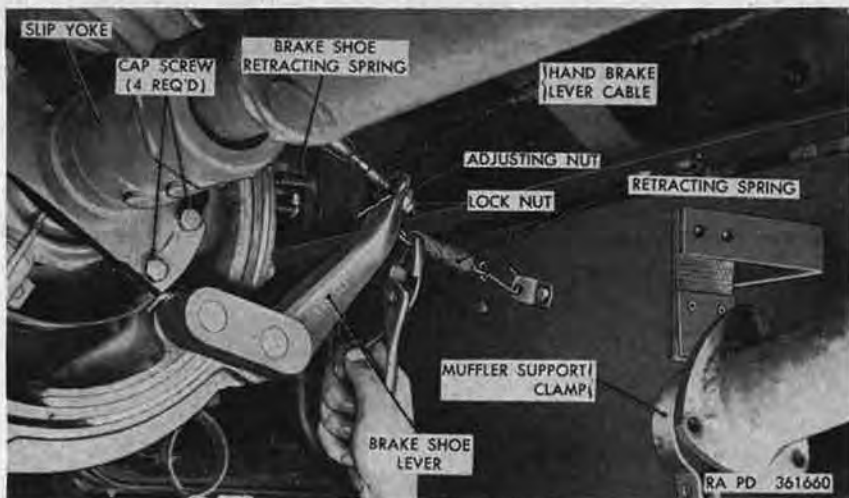
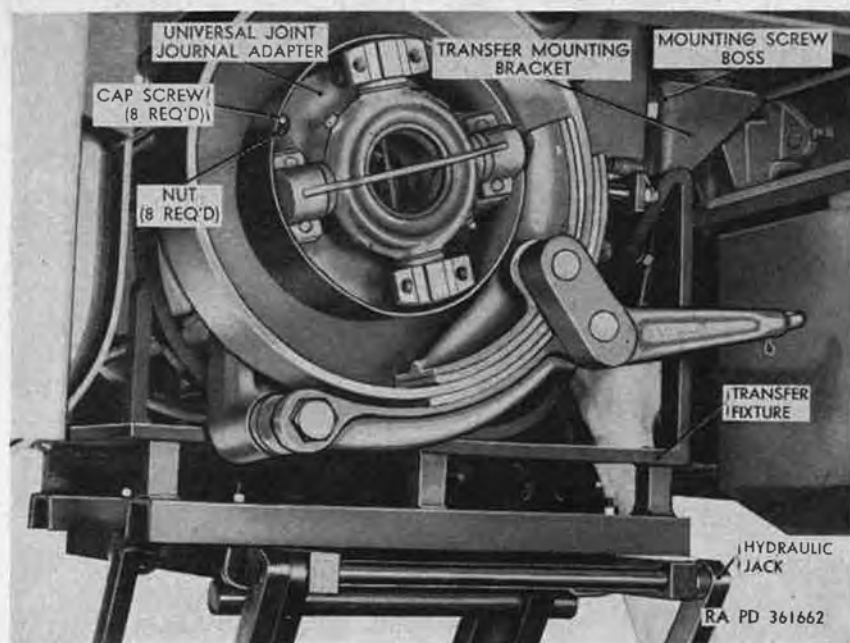

Figure 202. Universal joint and handbrake mechanism at rear of transfer.
Figure 205. Supporting transfer with hydraulic jack.
- (1) Remove right front wheel and tire assembly from front axle (par. 241).
- (2) Remove tailpipe (par. 132).
- (3) Remove four cap screws securing slip yoke (fig. 202) at front end of transfer-to-forward-rear-axle propeller shaft to universal joint journal, and remove yoke from journal.
- (9) Disconnect transfer-to-front-axle propeller shaft at front-output-shaft companion flange (par. 211). Secure rear end of propeller shaft to frame left side rail.
- (10) Unhook retracting spring from brakeshoe lever (fig. 202) at rear of transfer. Remove adjusting nut and locknut from handbrake cable, and remove cable from brakeshoe lever.
- (11) Position hydraulic jack (fig. 99) with transfer fixture under transfer, and raise jack until weight of transfer is just supported by jack (fig. 205).
- (12) Remove three cap screws securing transfer to right mounting bracket (fig. 205), and remove four cap screws securing transfer to left mounting bracket.
- (15) Remove eight nuts (fig. 205) and washers from cap screws securing universal joint journal adapter to rear-output-shaft companion flange, and remove adapter from flange.
- (1) Position universal joint journal adapter (fig. 205) on cap screws at rear-output-shaft companion flange, install eight nuts and washers on cap screws, and tighten nuts.
- (3) Turn jack until front of transfer is toward front of truck, raise jack, and aline mounting screw bosses (fig. 205) on left and right sides of transfer case with left and right transfer mounting brackets.
- (4) Install three cap screws in holes in right mounting bracket and mounting screw boss, and install four cap screws in holes in left mounting bracket and mounting screw boss. Tighten cap screws. Lower jack and remove from underneath truck.
- (5) Hook end of retracting spring (fig. 202) in eye provided on brakeshoe lever. Insert end of handbrake cable in hole at upper end of brakeshoe lever, and install adjusting nut on end of cable. Adjust handbrake (par. 228) and install lock-nut on end of cable.
- (6) Position slip yoke (fig. 202) on front end of transfer-to-forward-rear-axle propeller shaft at universal-joint journal, and